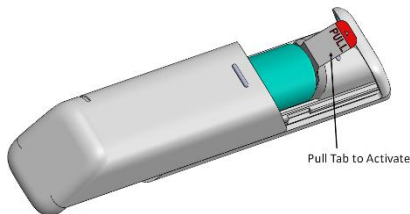

Figure 1
1. While next to the home controller or security system slide the top cover open to expose the battery pull tab, pull the plastic tab to activate the sensor, slide the top cover to the closed position, Figure 1.